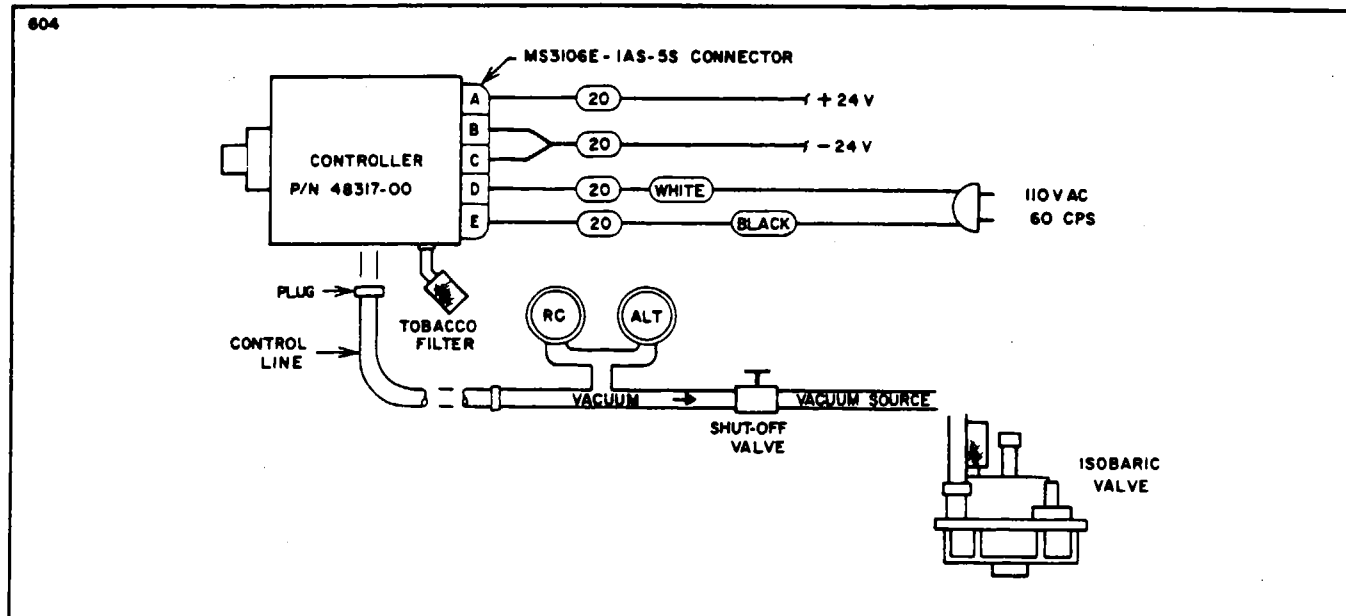

Figure 13-38. Cabin Altitude Controller (P/N 48317-00)
13-139. ELECTRICAL TEST OF THE CABIN ALTITUDE CONTROLLER (P/N 48317-00). (Refer to Figure 13-38.)
a. Connect electrical test harness, which may be fabricated as per Figure 13-38, to controller.
13-140. VACUUM CHECK OF THE CABIN ALTITUDE CONTROLLER (P/N 48317-00). (Refer to Figure 13-38.)
13-141. VACUUM RELIEF CHECK FOR CABIN ALTITUDE CONTROLLER (P/N 48317-00). (Refer to Figure 13-38.)